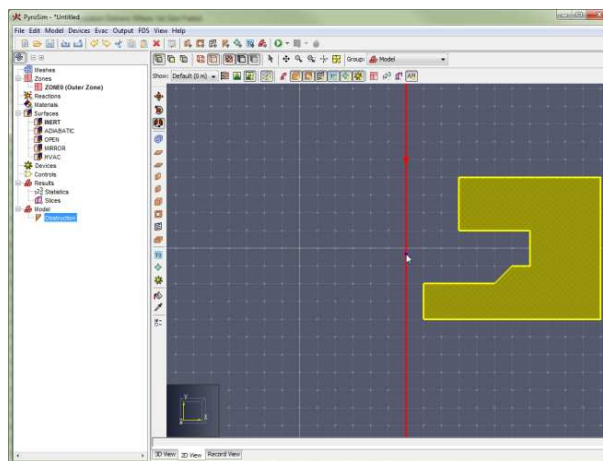

Figure 100. Define second point and mirror line
3. Use **Click-drag Mode** or **Multi-click Mode** to define two points that create a plane about which the selected objects are mirrored (Figure 100).